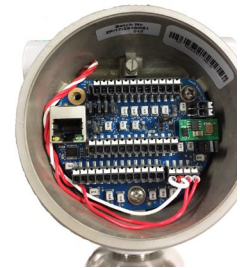

Figure 5. Completed Wiring Assembly
3. The completed wiring assembly should appear as in Figure 5.